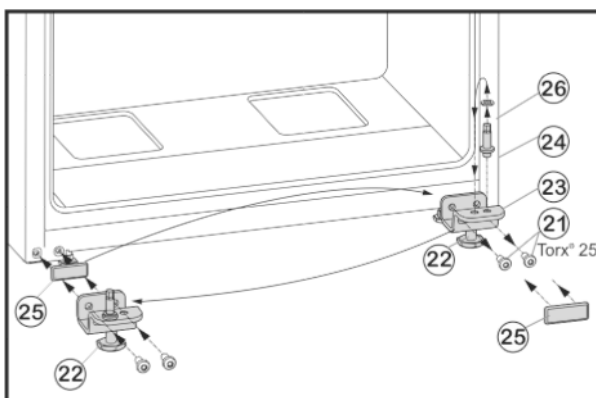

Fig. 8
- ▶ Unscrew fastening screws Fig. 8 (21).
- ▶ Remove the lower bearing block Fig. 8 (23), complete with bearing bolt Fig. 8 (24), washer Fig. 8 (26) and adjustable foot Fig. 8 (22).
- ▶ Unscrew the bearing bolt Fig. 8 (24), complete with washer Fig. 8 (26), re-locate it into the mounting hole on the opposite side of the bearing block and tighten again.
- ▶ Carefully remove the cover plate Fig. 8 (25) and re-locate it to the other side.
- ▶ Screw on the lower bearing block Fig. 8 (23), complete with bearing bolt Fig. 8 (24), washer Fig. 8 (26) and adjustable foot Fig. 8 (22) to the new hinge side, with the help of a cordless screwdriver if necessary, and **tighten (with 4 Nm)** once again.
- ▶ Lower the door from above onto the bearing bolt Fig. 8 (24).
- ▶ Unscrew the adjustable foot Fig. 8 (22) on the lower bearing block Fig. 8 (23) until it touches the floor.